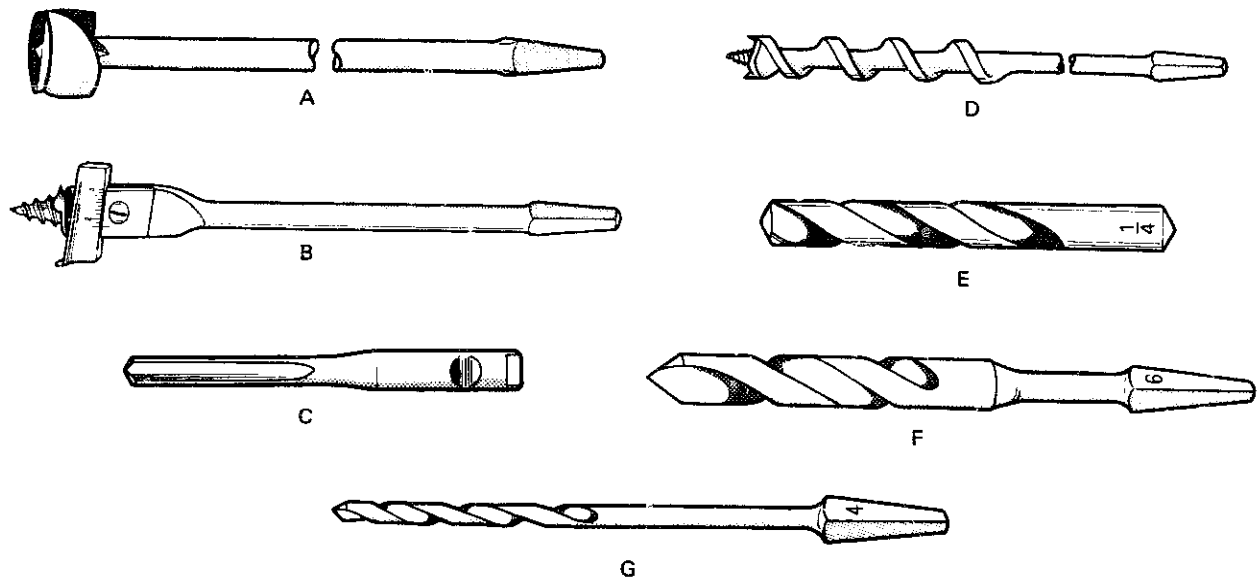

Fig. 10-61
2. Identify each bit or drill shown in figure 10-61. State the range of sizes, size increments, and the tools in which each can be used.